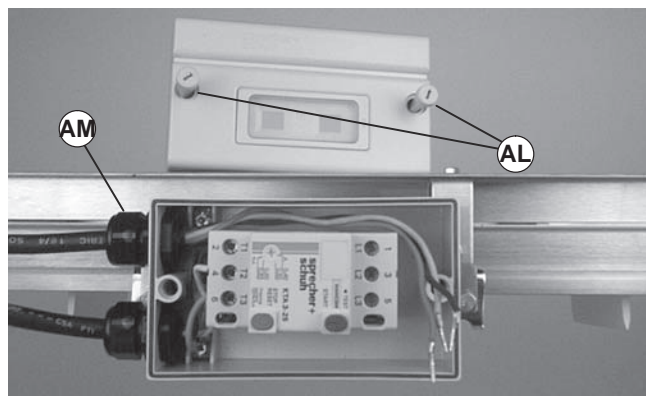

Figure 18
1. Loosen cover screws (Figure 18, item AL). Remove cover.
5. Install cover and tighten screws (Figure 18, item AL).